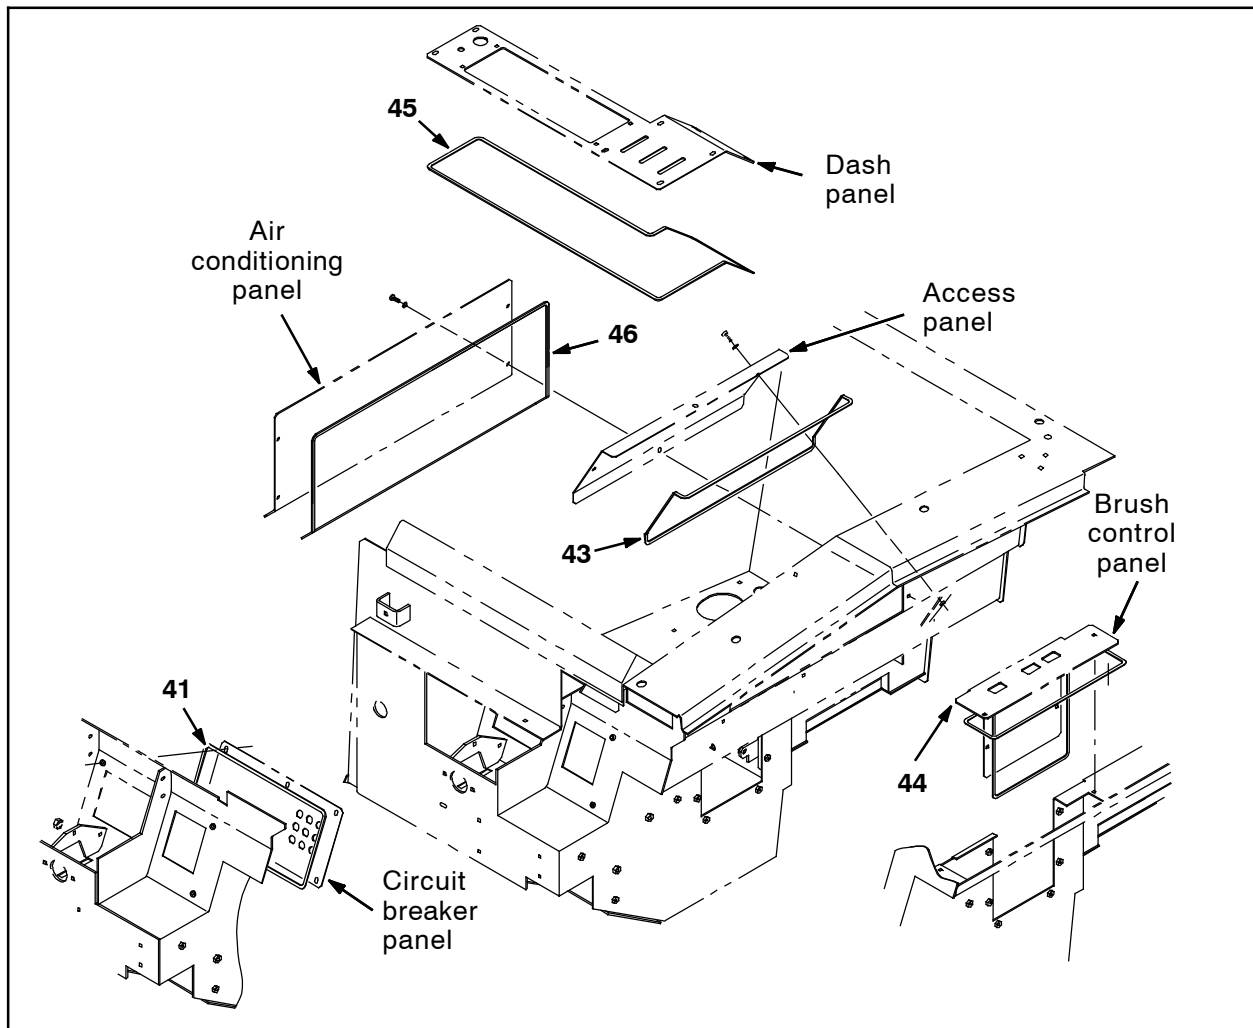

FIG. 1
1. Remove the hardware holding the circuit breaker panel, brush control panel, access panel, air conditioning panel, and dash panel to the machine. Set all hardware aside. (Fig. 1)
2. Install the 76 in. adhesive foam seal (46) onto the air conditioning panel and reinstall the panel onto the machine. (Fig. 1)
3. Install the 84 in. adhesive foam seal (45) onto the dash panel and reinstall the panel onto the machine. (Fig. 1)
4. Install the 54 in. adhesive foam seal (43) onto the access panel and reinstall the panel onto the machine. (Fig. 1)
5. Install the 34 in. adhesive foam seal (44) onto the brush control panel and reinstall the panel onto the machine. (Fig. 1)
6. Install the 42 in. adhesive foam seal (41) onto the circuit breaker panel and reinstall the panel onto the machine. (Fig. 1)